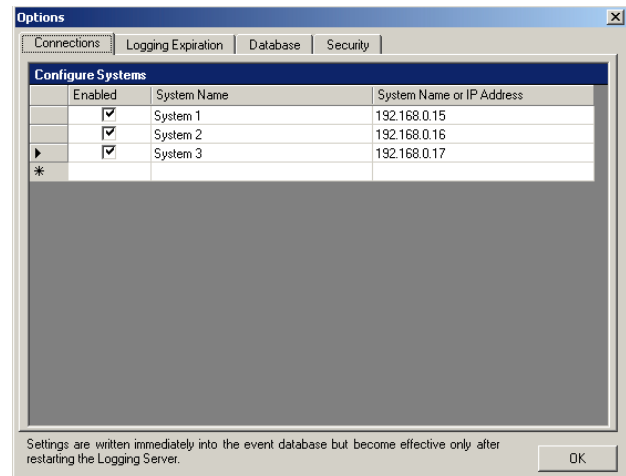

figure 56.5: Options window
- 2 Click *File > Options*. A screen similar to the one in figure 56.5 appears.